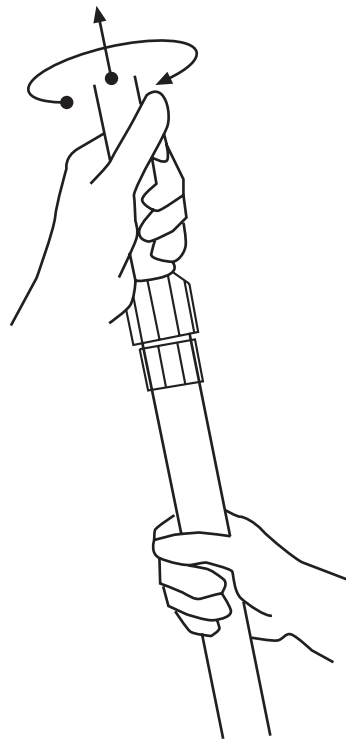

Fig. 1
2. Determine the length of the pole required to be able to reach the suspended worker. The rescue pole is of telescopic design and can be extended to the required length. To extend, secure the lower end of the pole and loosen the threaded collar. Next, turn the upper section of the pole counter clockwise. This will unlock the telescopic sections which then can be adjusted to the necessary length (Fig. 1).